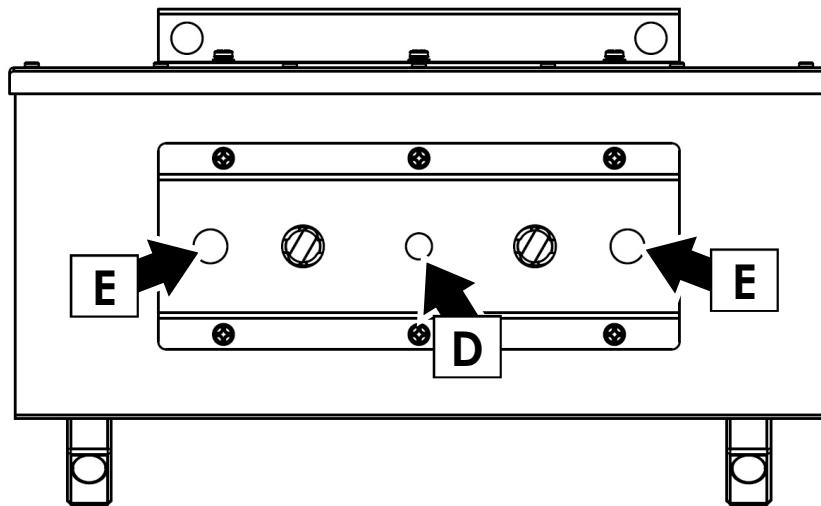

Figure 30. KNV PSU M10 threaded hole
2. See Figure 30. Fasten the rigging clamp to the PSU's mounting plate by passing the M10 bolt or screw through the rigging clamp and tightening it into the M10 hole **D** in the mounting plate. The bolt must thread fully into hole **D** but it must not touch the PSU's housing.